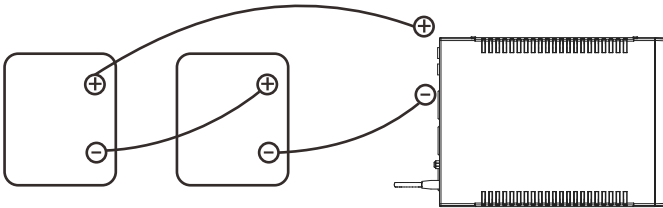

Fig. 2
2) Double Battery Connection for 2400 VA Double Battery 24 Volt (Refer to Fig 2):